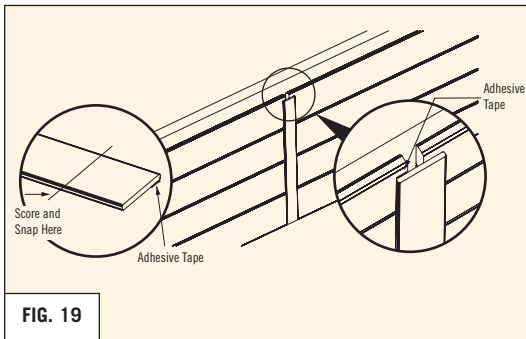

FIG. 19
- Cut the Cladding Covering Trim to length by scoring the side without tape with a utility blade, and snapping the part over a sharp tabletop edge. The adhesive tape can be cut after snapping the part. Ensure that the surface of the 12" cladding is clean and dry before attaching the Cladding Covering Trim. Remove the adhesive liner from the Covering Trim and affix to the extreme end of one length of the cladding. The tape should attach to the extreme end of ONE cladding length, covering any gap between boards. (**REFER TO FIG 19**)